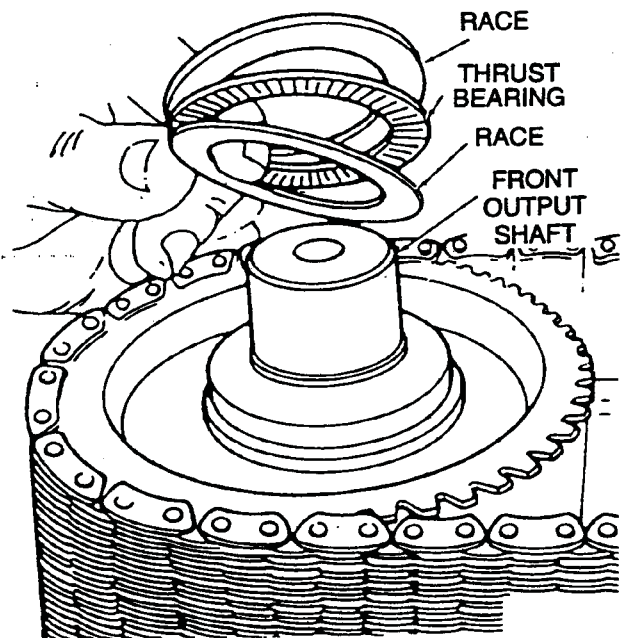

Fig. 4-8 Remove Thrust Bearing and Races
9. Remove the thrust bearing and races from the front output shaft (Fig. 4-8).